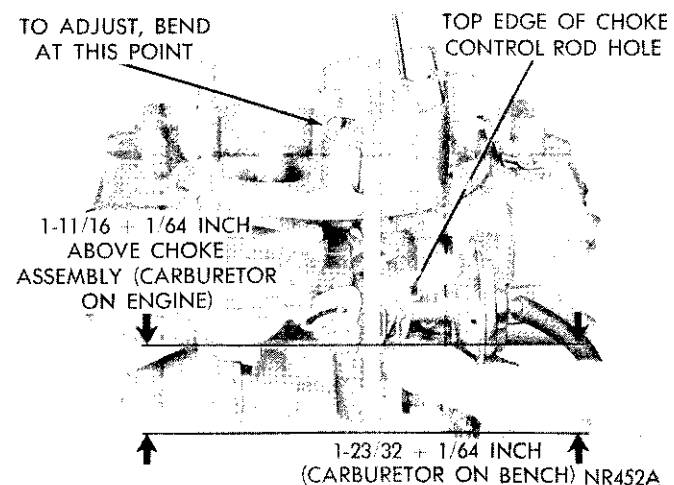

Fig. 18—Qualifying Choke Control Lever
(1) Open the throttle to mid-position.
(2) Close the choke valve by slight pressure on choke control lever.
(3) The top of choke rod hole in control lever should be 1-11/16 ± 1/64 inch above choke assembly (carburetor on engine) or 1-23/32 ± 1/64 inch above carburetor base (Carburetor on bench) (Fig. 18).
(4) Adjust if necessary by bending choke shaft rod at point indicated.